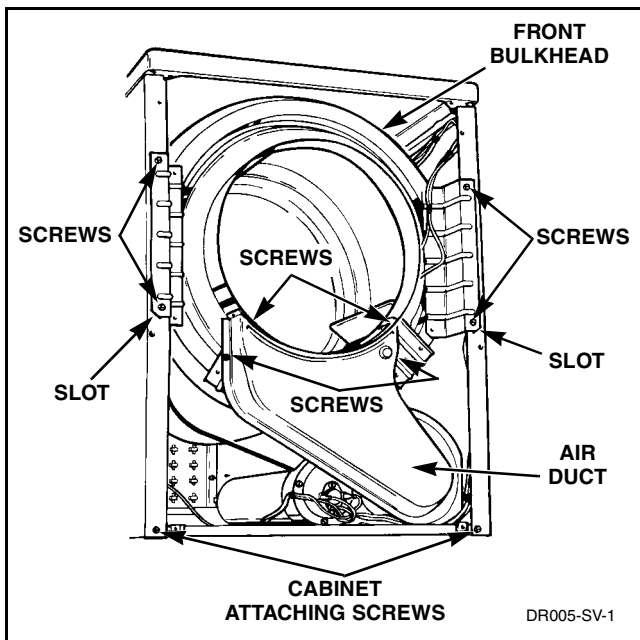

Figure 32
- Remove four screws holding bulkhead to front flange of cabinet and lift complete bulkhead assembly out of slots in cabinet. Refer to *Figure 32*.
- e. Remove four screws holding bulkhead to front flange of cabinet. Then, lift complete bulkhead assembly out of slots in cabinet. Refer to *Figure 32*.
- e. Remove four screws holding bulkhead to front flange of cabinet. Then lift complete bulkhead assembly out of slots in cabinet. Refer to *Figure 32*.
- Remove four screws holding bulkhead to front flange of cabinet. Then, lift complete bulkhead assembly out of slots in cabinet. Refer to *Figure 32*.
- Remove four screws holding bulkhead to front flange of cabinet. Then lift complete bulkhead assembly out of slots in cabinet. Refer to *Figure 32*.